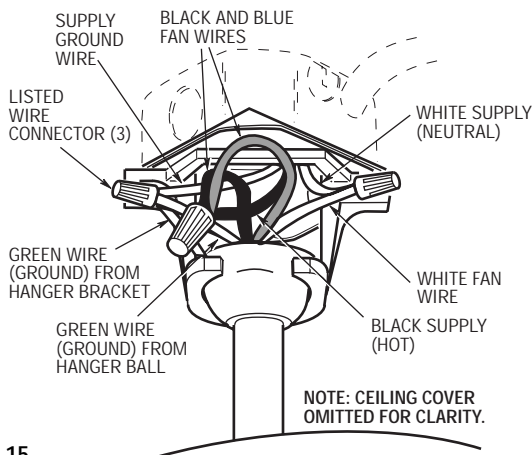

Figure 15
1. Connect the green grounding lead from the hanger ball and the green grounding lead from the hanger bracket to the grounding conductor of supply (this may be a bare wire or wire with green colored insulation) (Figure 15). Securely connect wires with wire connector supplied.
2. Securely connect the fan motor white wire to the supply white (neutral) wire using wire connector supplied (Figure 15). Securely connect the fan motor black wire and blue wire to the supply black (hot) wire using wire connector supplied (Figure 16). After connections have been made, turn leads upward and carefully push leads into the outlet box, with the white and green leads on one side of the outlet box and the black and blue leads on the other side of the outlet box.